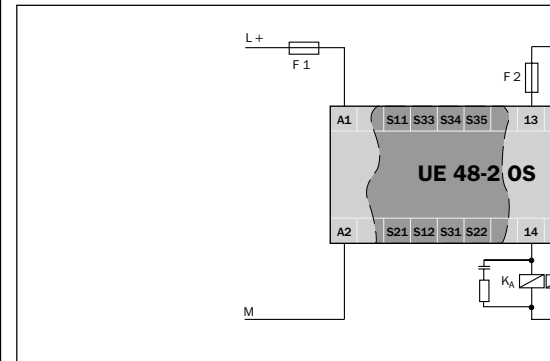

Fig. 2: Basic wiring UE 48-2 OS: voltage supply, dual channel output circuit (see Table)
- To prevent the final switching device contacts from welding, a fuse, rated to provide protection from short circuit to max. 6 A (Operation Class gG), is to be incorporated in the output circuitry (refer to Fig. 2, fuses F2/F3).